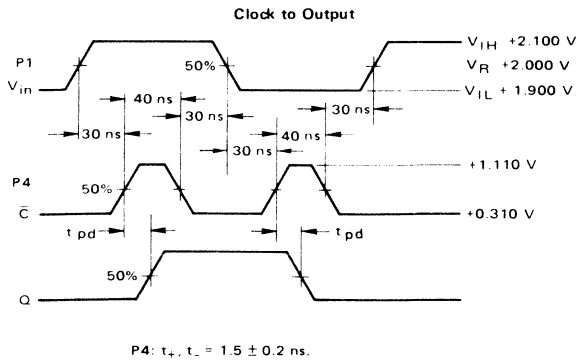

FIGURE 3 – CLOCK ENABLE AND APERTURE TIME TEST CIRCUIT AND WAVEFORMS @ 25°C
② Unused clock inputs may be tied to ground.
③ See Figure 3.